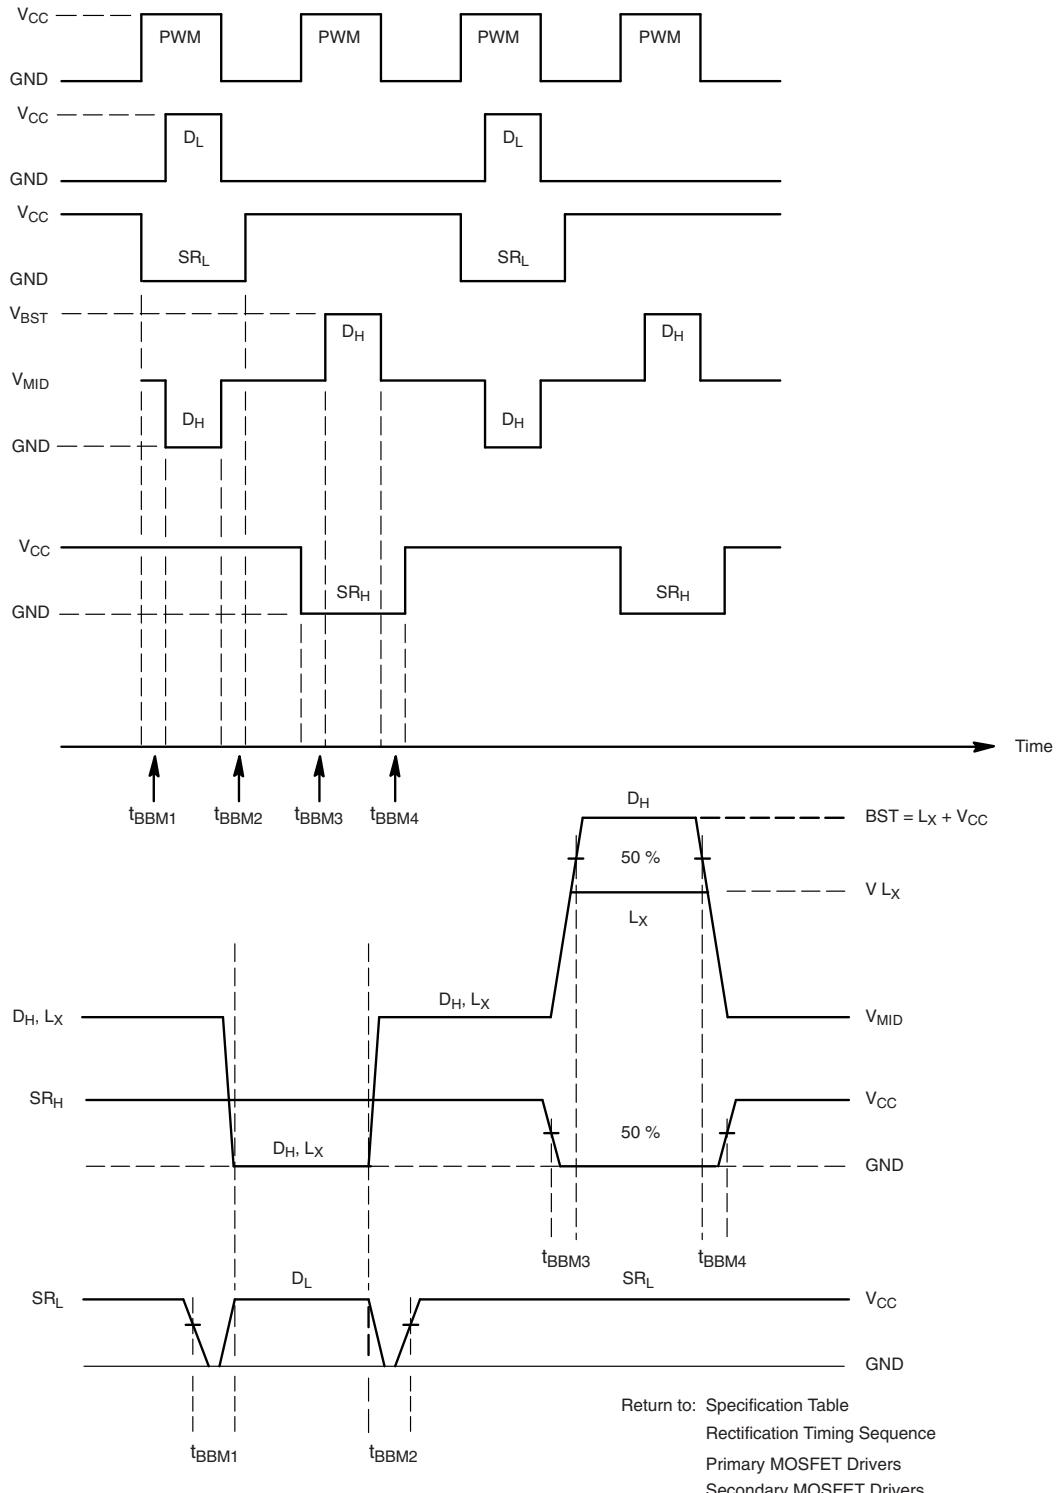

Figure 3.
- f. See figure 3 for Break-Before-Make time definition.
The timing and coordination of the drives to the primary and secondary stages is very important and shown in figure 3. It is essential to avoid the situation where both of the secondary MOSFETs are on when either the high or the low-side switch are active. In this situation the transformer would effectively be presented with a short across the output. To avoid this, a dedicated break-before-make circuit is included which will generate non overlapping waveforms for the primary and the secondary drive signals. This is achieved by a programmable timer which delays the switching on of the primary driver relative to the switching off of the related secondary and subsequently delays the switching on of the secondary relative to the switching off of the related primary.
The drive voltage for the low-side MOSFET switch is provided directly from V_{CC} . The high-side MOSFET however requires the gate voltage to be enhanced above V_{IN} . This is achieved by bootstrapping the V_{CC} voltage onto the L_X voltage (the high-side MOSFET source). In order to provide the bootstrapping an external diode and capacitor are required as shown on the application schematic. The capacitor will charge up after the low-side driver has turned on. The switch gate drive signals D_H and D_L are shown in figure 3.
The secondary side MOSFETs are driven from the Si9122A via a center tapped pulse transformer and inverter drivers. The waveforms from SRH and SRL are shown in figure 3. Of importance is the relative voltage between SRH and SRL, i.e. that which is presented across the primary of the pulse transformer. When both potentials of SRL and SRH are equal then by the action of the inverting drivers both secondary MOSFETs are turned on.